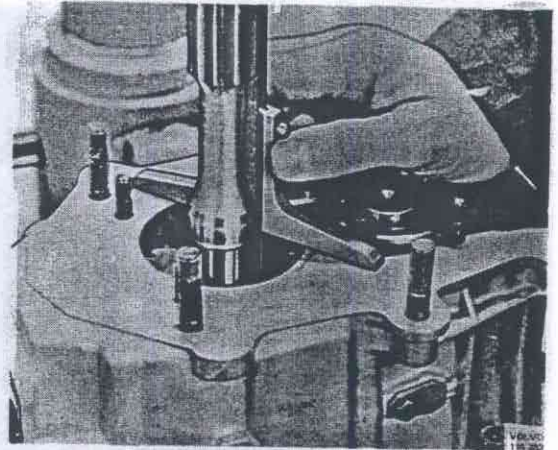

Fig. 43-121. Calculating clearance
26. Measure the distance from the gearbox housing, Fig. 43-121, to the contact surface of the bearing on the input shaft.